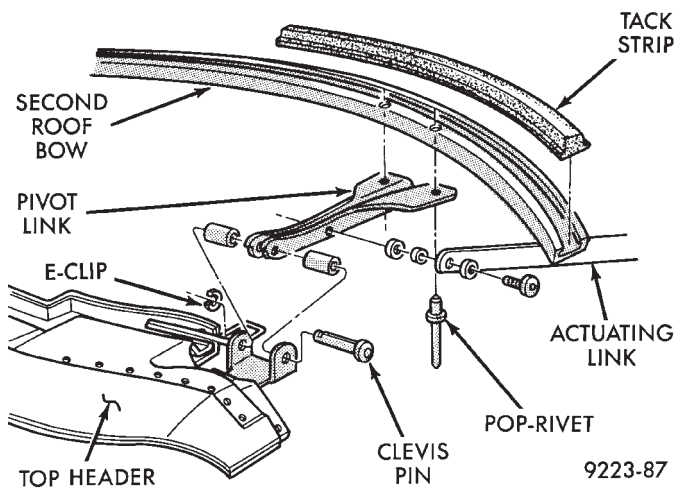

Fig. 8 Second Roof Bow
- (1) Lower convertible top.
- (2) Remove E-clip and clevis pin holding second roof bow pivot link to top header (Fig. 8).
- (3) Remove screws holding second roof bow actuating link to pivot link (Fig. 8).